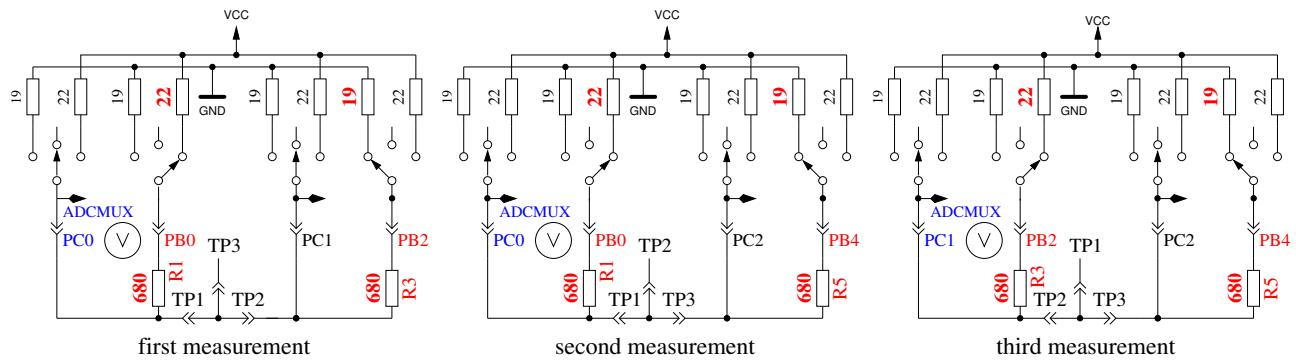

Figure 5.62. Comparison of  $680\Omega$  resistors
2. **Comparing of the  $680\Omega$  resistors.** In row 1 the cryptic text "+RL- 12 13 23" is shown. Meaning of this is as follows: The RL is the short form of Resistor Low meaning the  $680\Omega$  resistors. The 12 stand for: resistor at pin 1 is connected to VCC (+) and resistor at pin 2 is connected to GND (-). The result of this measurement is displayed in row 2 at the first place as difference to the theoretical value. In row 1 follows now a "13" which means, that the first connection of measurement 1 is still connected with  $680\Omega$  to VCC but that the resistor of pin 3 is connected to GND. The result is displayed in the middle place of row 2 as difference to the theoretical value. The last measurement of this test "23." means that now the resistor at pin 2 is connected to VCC (+) and the resistor of pin 3 is connected to GND. The result of measurement is displayed at the last place of LCR row 2 as difference to the theoretical value. Please remember, that the resolution of the ADC is about 4.88mV! The measurement situation is also shown in figure 5.62. The theoretical value with respect to the internal resistance of the pins should be:  $\frac{5001 \cdot (19+680)}{(19+680+680+22)} = 2493$ .